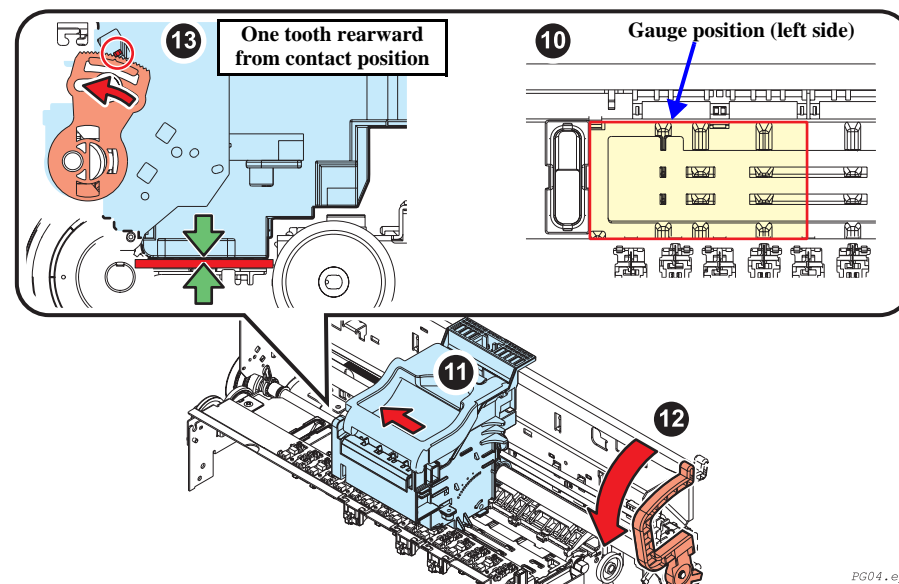

Figure 5-4. PG Adjustment (Left Side)
10. Place the gauge on the left side of the Upper Paper Guide. (See Figure 5-4)